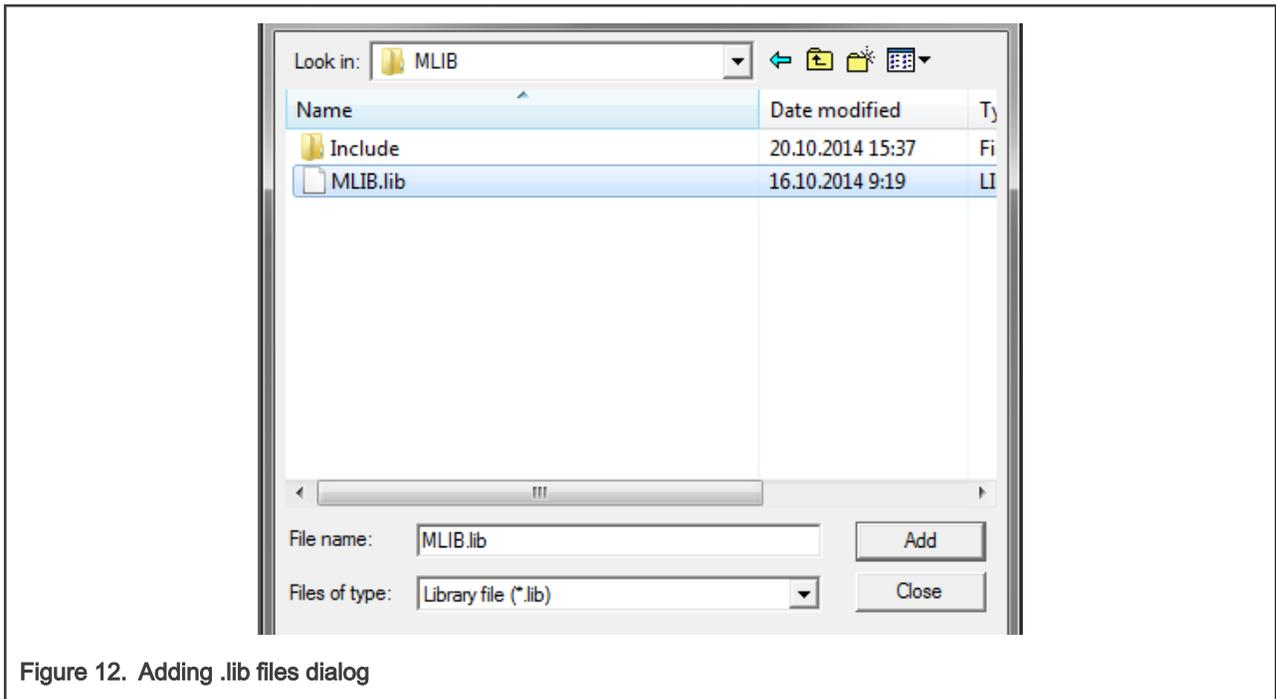

Figure 12. Adding .lib files dialog
- Navigate to the parent folder C:\NXP\RTCESL\CM0_RTCESEL_4.7_KEIL\MLIB, and select the *mllib.lib* file. If the file does not appear, set the Files of type filter to Library file. Click Add. See Figure 12.